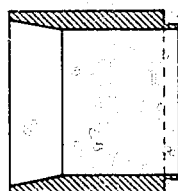

FIGURE 2
2. Lube Piston Installation Tool TSE 7993 (See Figure 2) MUST be used for assembling pistons with "Teflon" rings. The "thin walled" end of the tool pilots in the recessed diameter incorporated in Phase II governor cover/housings. NOTE: This tool can also be used for installing Phase I pistons with cast iron rings (Ref. Fig. 2-Section D330/3001).